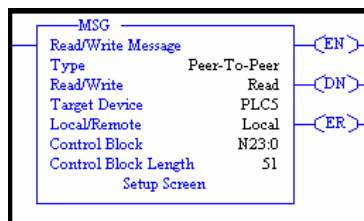

Figure 4-3: MSG Instruction
1. **Communication Command:** Should be the same command (Read/Write) that was chosen on the first screen (Figure 4-3).
2. **Data Table Address:** This is the location of the data file on the SLC where data will be written to (with a READ) or sent from (WRITE) (Figure 4-3).